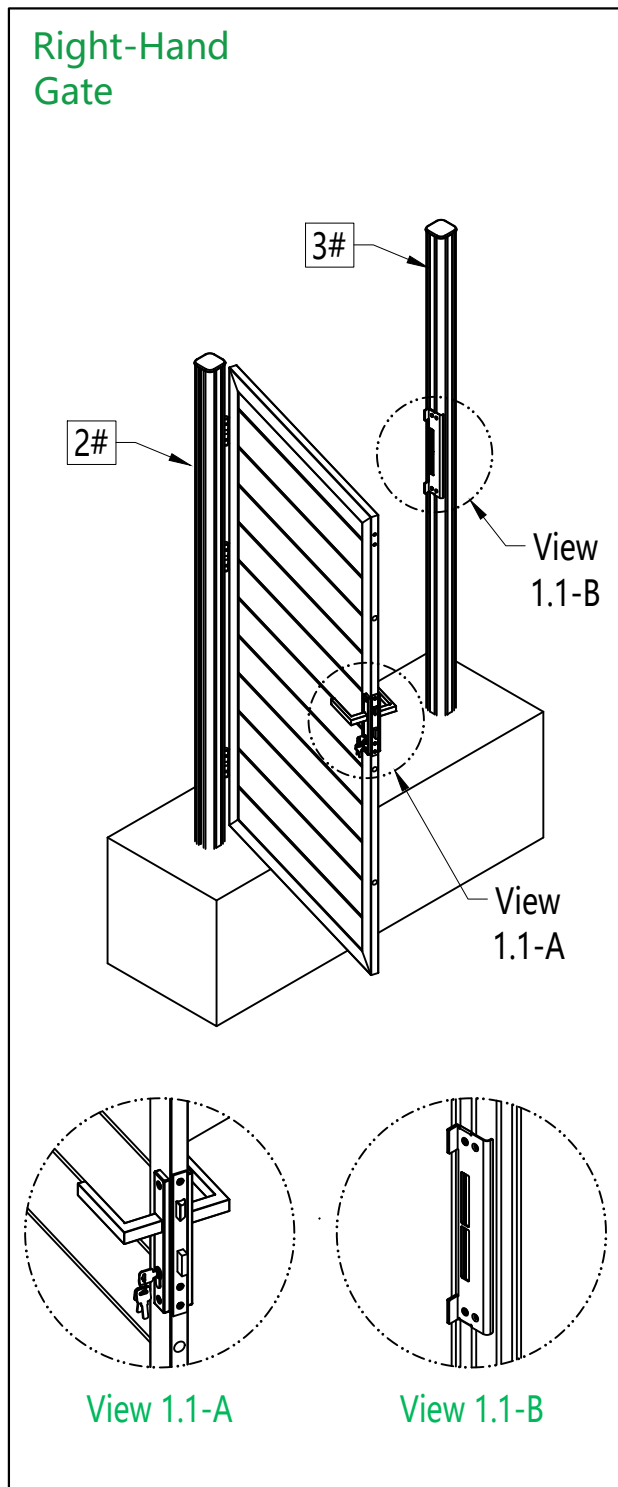
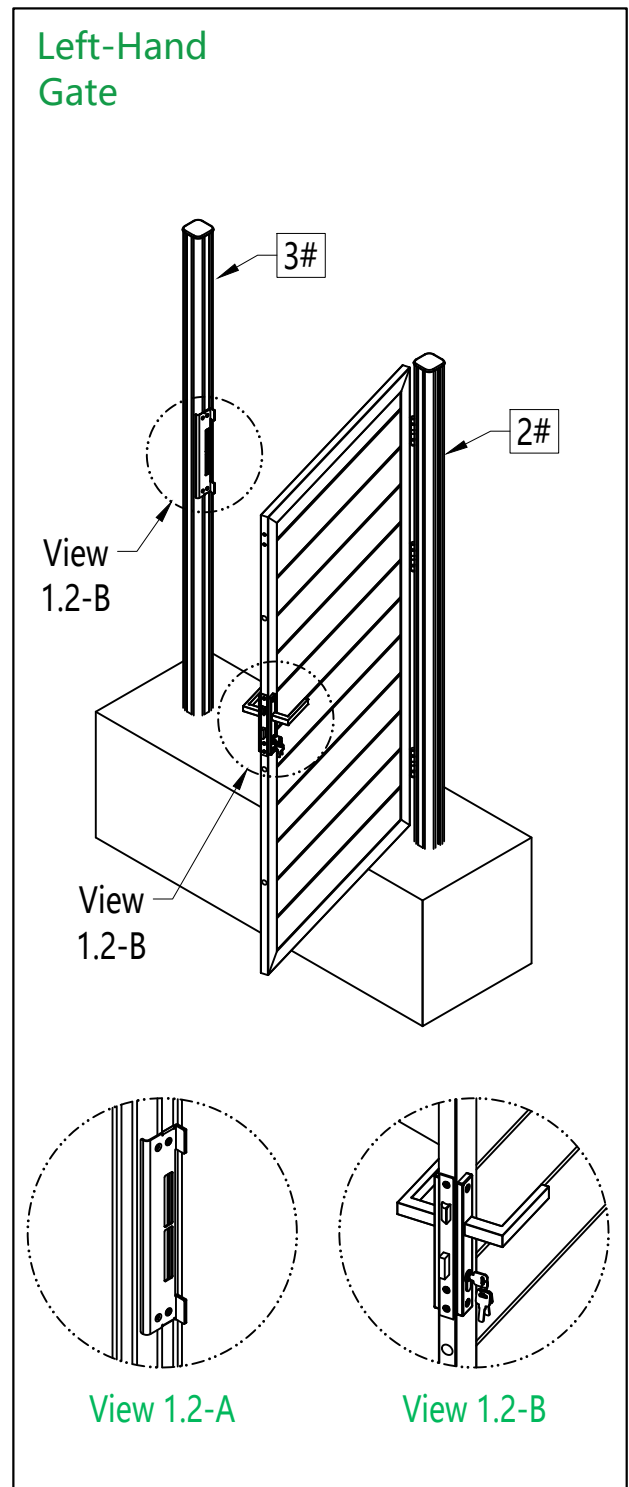

Figure 1.1
Figure 1.2
- 1 Determine the Fence Gate (1#) opening orientation, then install the Gate Posts correspondingly, as shown in Figure 1.1 and Figure 1.2.